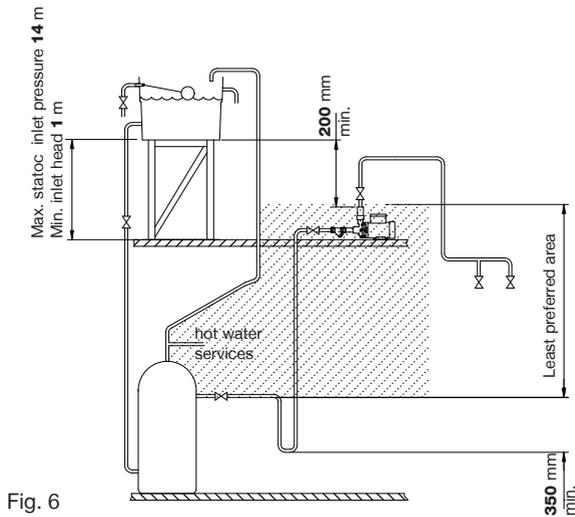

Fig. 6
2.26 **Non-Preferred Pump Location:** The pump must be located with at least 1 metre flooded suction at all times. If it is not possible to locate the pump in the preferred area due to site limitations and it is necessary to position the unit in the loft, or in a position above the secondary tapping that feeds the pump, then there is an increased risk of air locks. This risk must be eliminated. The following method will help to overcome the problem: In this application only use an Essex or Techflow side entry flange, then fit a “U” bend or downward loop in the supply pipe to the pump of 350 mm depth before rising to the pump should ensure the cylinder vents its air up the expansion pipe, not up the pump feed (Fig. 6).